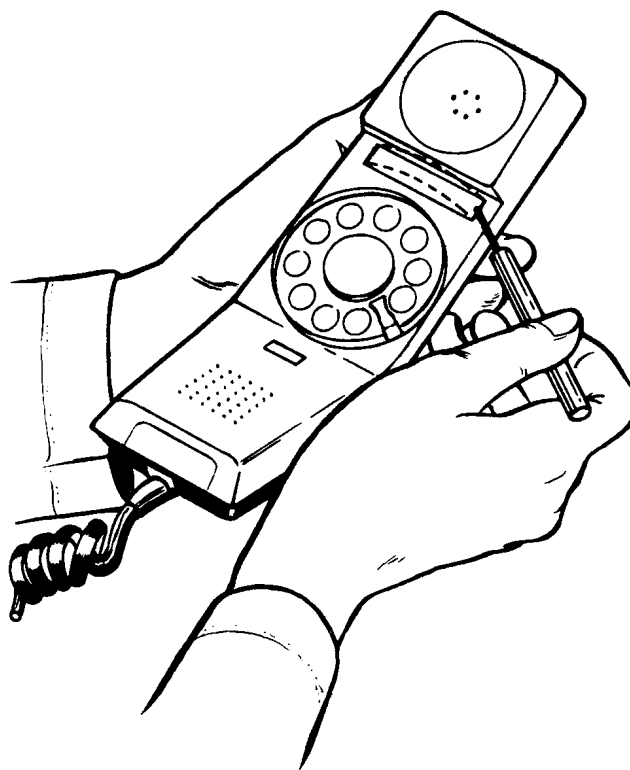

Fig. 9 – Method of Removing Card Retaining Window
4.02 Disassembly of handset (see Fig. 9, 10 and 11).
(3) Pry on the releasing tool away from the window enough to bend the window outwards so that it may be grasped with the fingers and removed. (Fig. 9.)